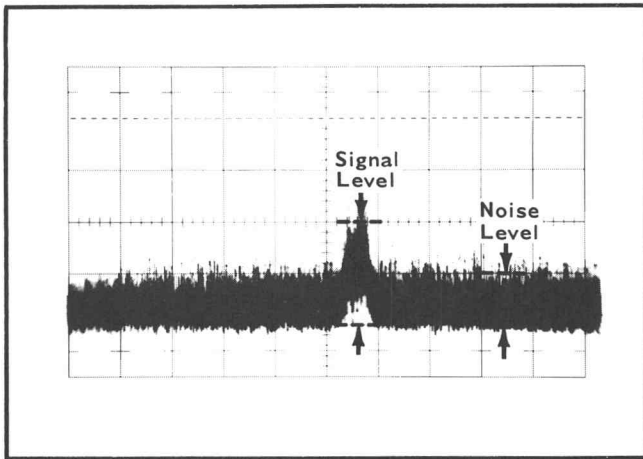

Fig. 5-2. Typical display for Sensitivity Check (Step 5e).
- e. Adjust the RF Attenuator control of the generator so that the displayed signal is twice as high as the noise level. (See Fig. 5-2.)